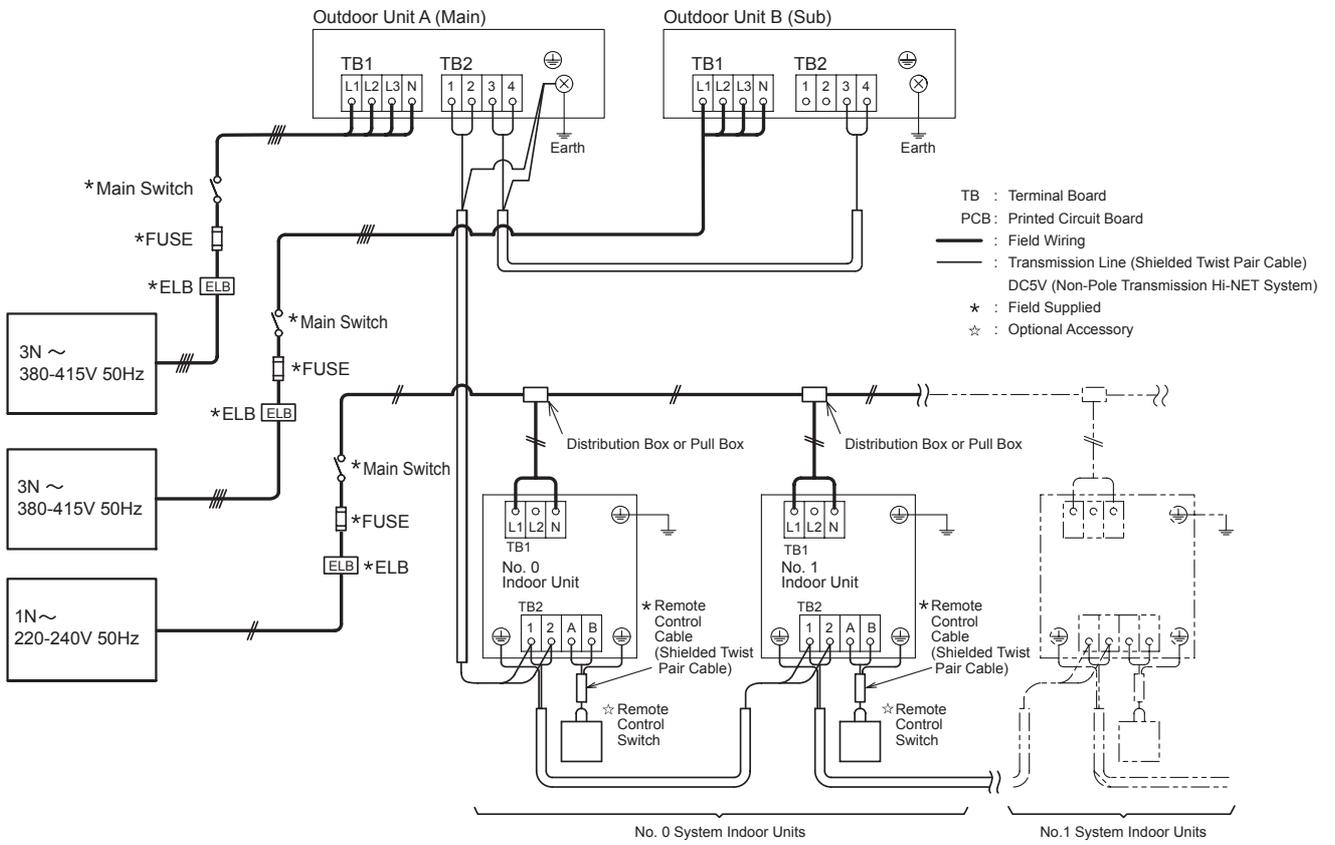

Fig. 7.2 Instruction for Electrical Wiring Connection
- (3) Connect the transmission wiring between indoor units, Switch Box and outdoor units, as shown in Fig. 7.2.
- (4) Connect the transmission wiring in the same refrigerant cycle unit. (In case that the refrigerant pipe of indoor unit is connected to the outdoor unit, connect the transmission wiring to the same indoor unit.)